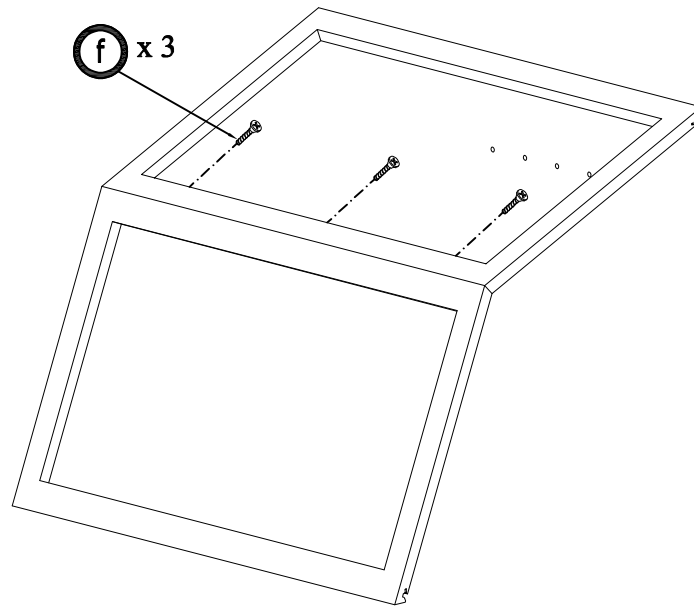

Figure 4
5. Assemble frame (F) into frame (E) by screwdriver and 3 screw $\frac{7}{8}$ " . (Figure4)